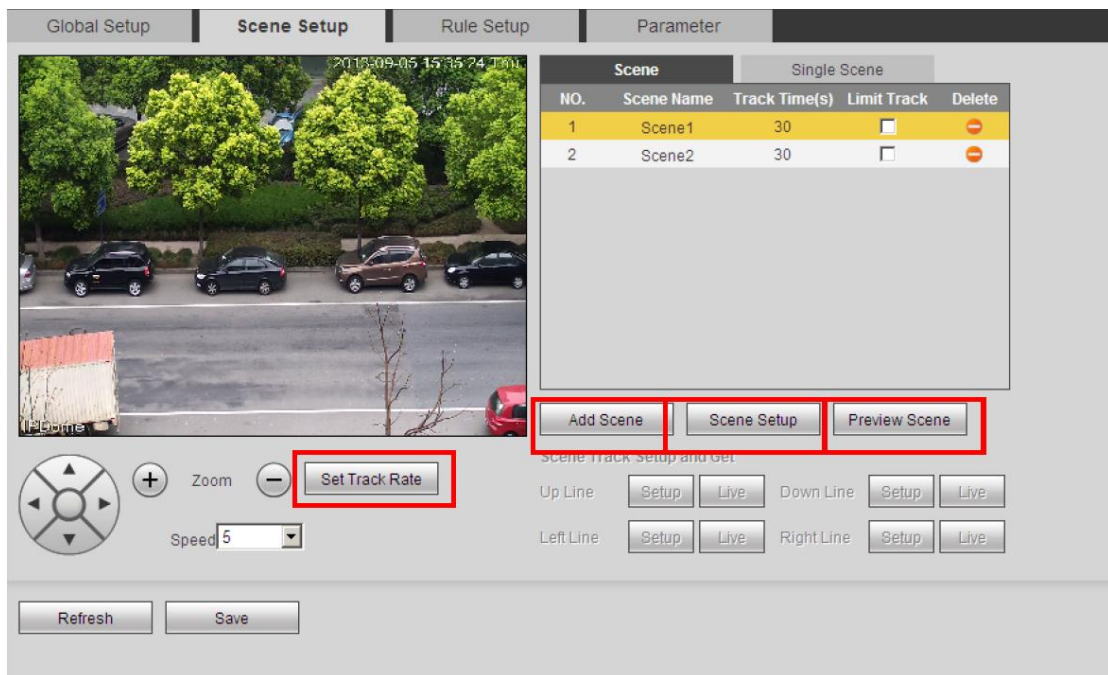

Figure 22-2
3) Set scene. Please go to the Scene setup interface, click  button to add a scene. System saves current monitor area as the new scene by default. You can use the PTZ to adjust the monitor area and click  button to set a new scene too. Use the  button to adjust the PTZ zoom position. Select a proper zoom rate and the click  button; you can set the track process in current scene at the reference rate you set here. Move your mouse to the Scene name, track time, you can edit them. Click the Save button to complete the setup. See Figure 22-2.